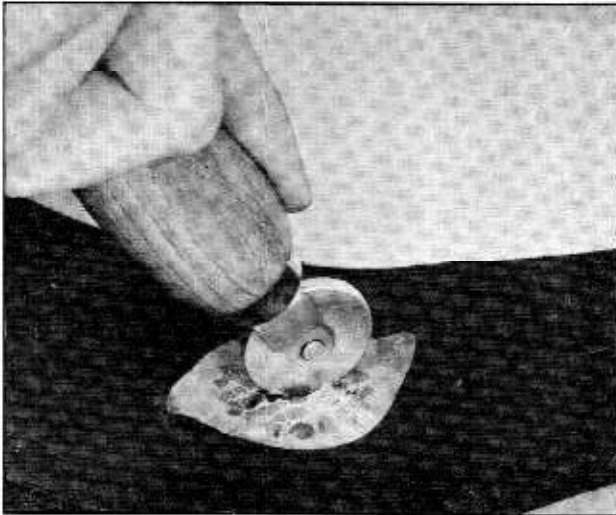

Fig. 5-32 Rolling Patch
6. Remove foil backing from patch. Place over injury and iron down firmly, especially the edges, with roller tool included in kit. To prevent buckling and insure a good seal, roll patch from the center toward the outer edges. (Fig. 5-32) Vulcanization is completed chemically. The repaired tire can be placed back in service immediately.